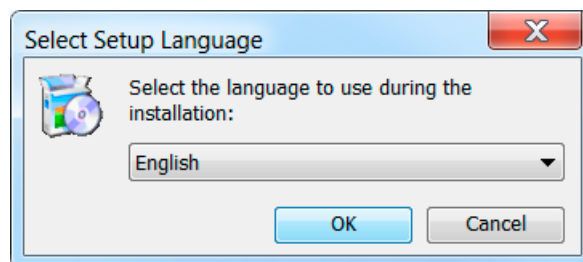

Figure 3-1. Select Language for Software
3. From the drop-down menu shown in Figure 3-1, select the language in which to show the software and click OK. Available languages include English, Italian, French, German, Hebrew, and Japanese. Note that the language selection applies only to software set-up instructions on-screen and not the Coherent Connection software itself (English only).